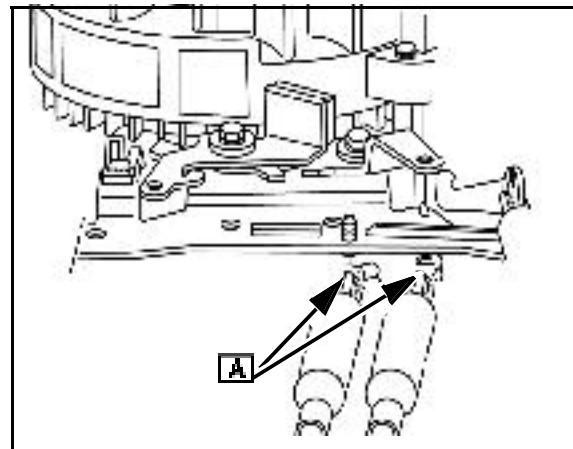

Fig. 44
On two terminal switches connect meter leads to both terminals ([A] Fig. 44), on three terminal switches connect leads to terminals 2 and 3.
3. Connect test leads to two spade terminals ([A] Fig. 44) of switch. There should be no continuity.